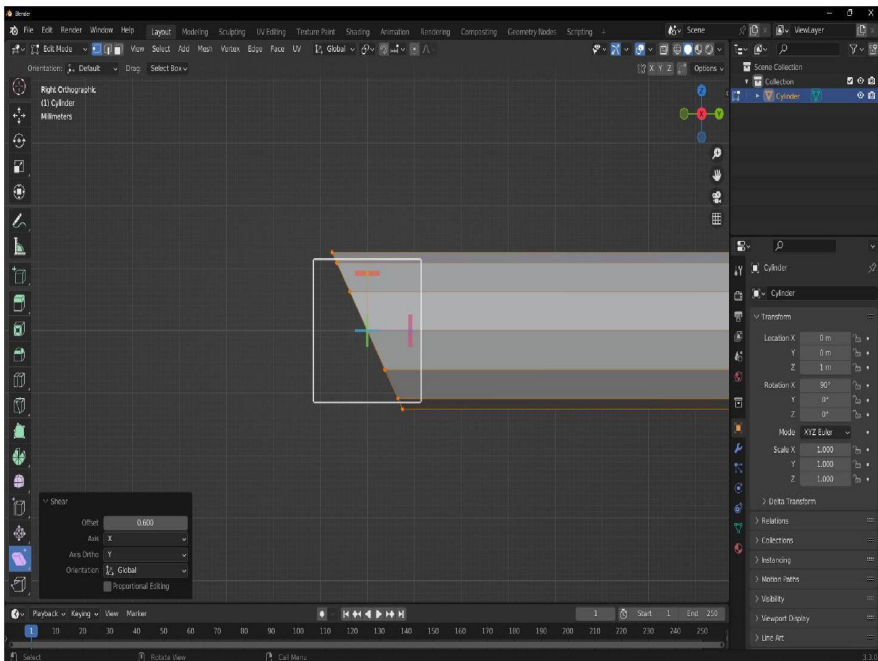

Figure 9.9: Shear applied to the open end of a Cylinder primitive
11. In the contextual menu, set the **Offset amount** to around 0.6 as shown in *Figure 9.9*: